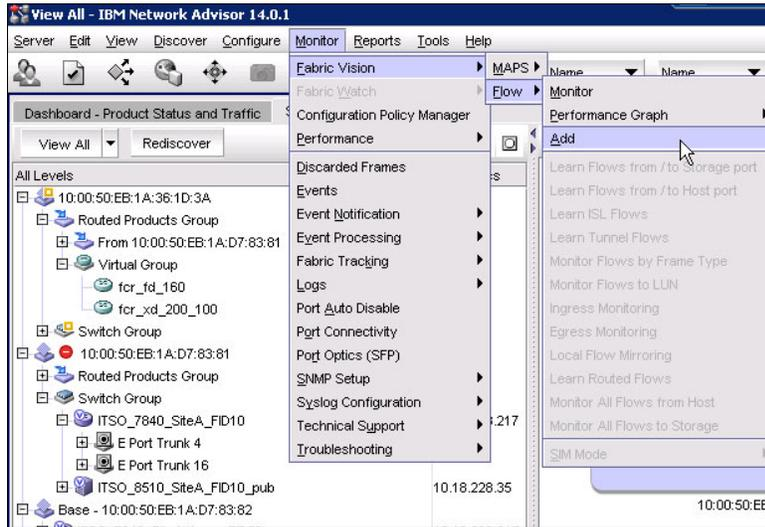

Figure 7-13 Menu for adding a flow
2. Select the switch or switch port from the **Connectivity Map** or **Product List**, and then select **Monitor** → **Fabric Vision** → **Flow** → **Add** (Figure 7-13).